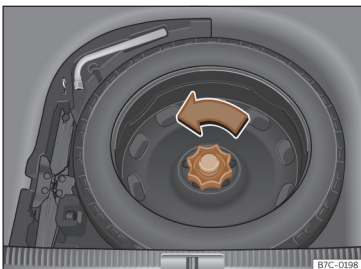

Fig. 239 In the luggage compartment: raised load floor.
- Turn the thumb wheel anticlockwise >>> **Fig. 239**.